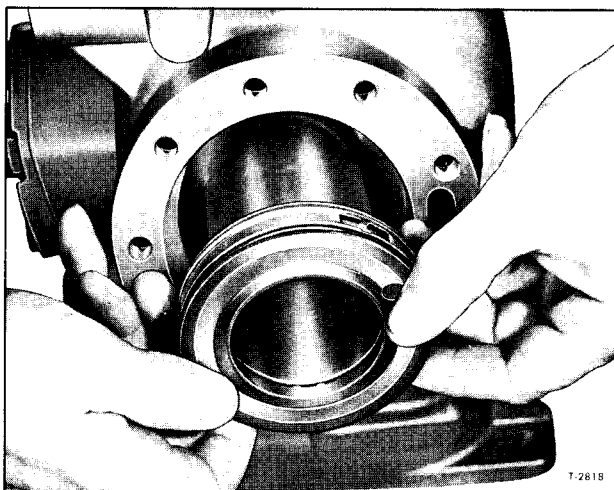

Figure 35—Pulling Liner Off Piston
3. Make sure liner is forced out beyond the O-ring seal (44), then withdraw liner by hand (fig. 35). Support the piston through the liner so that piston does not bump against the compressor housing when the liner comes off piston.